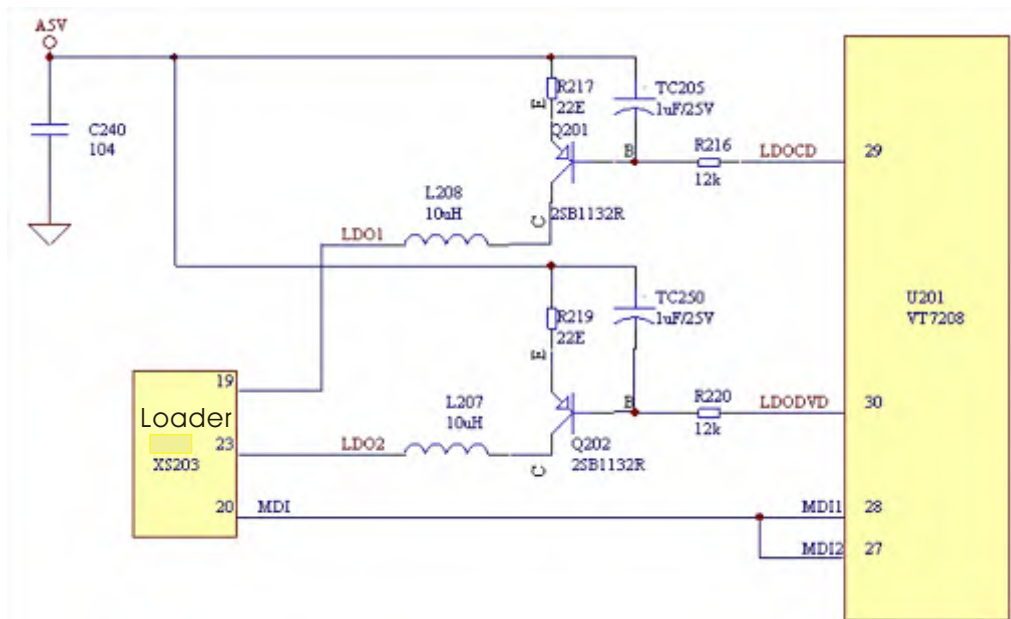

Figure 3.2.2.1 Laser power control circuit diagram
1. Laser power control circuit is shown as the following figure 3.2.2.1: